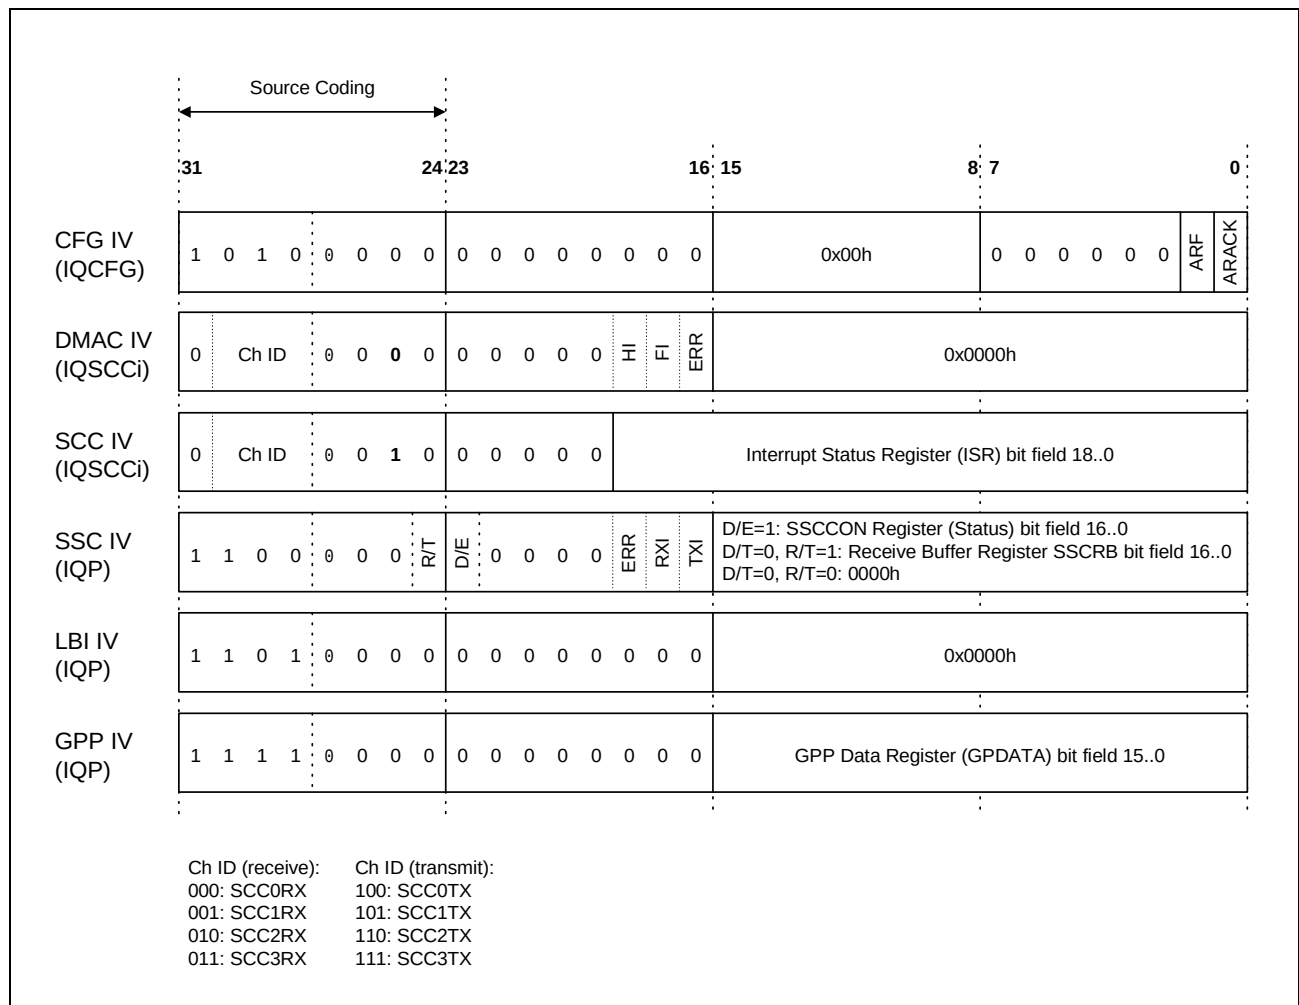

**Figure 81** Interrupt Vector Overview
**Figure 81** provides an overview about all DSCC4 interrupt vectors. The different interrupt sources (types) are distinguished by the most significant 8 bit of the 32-bit interrupt vector. The dedicated host memory interrupt queues, the vectors are transferred to, are referenced in brackets under each interrupt vector name: